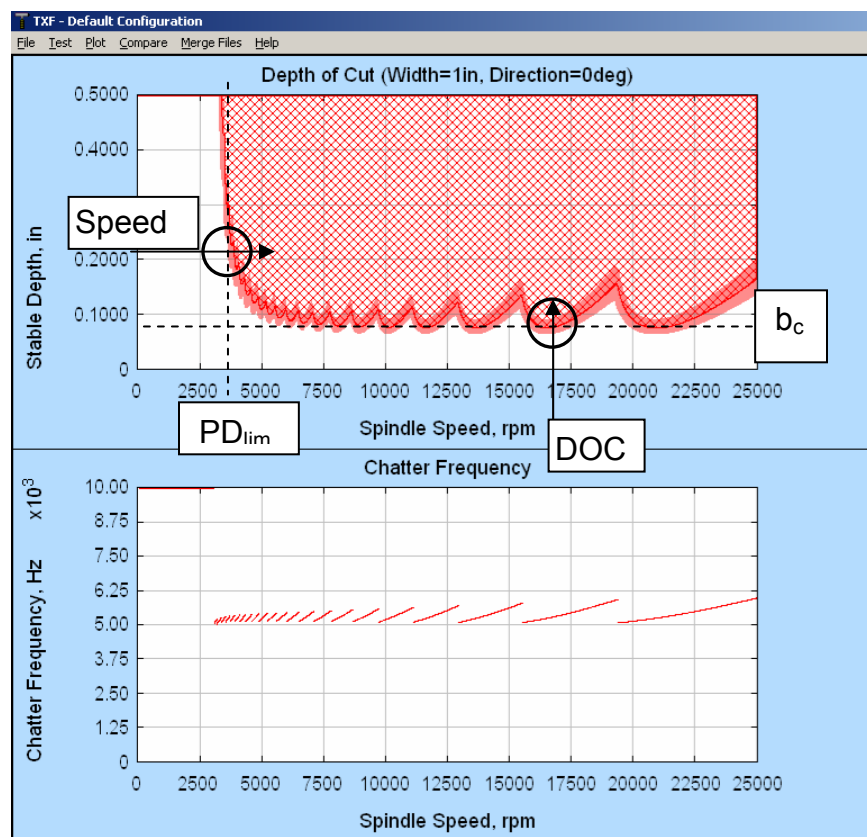

Figure 52: Stability Lobe Diagram
In the procedural description we will refer to the general stability graph in Figure 52.
- At some high speed select a “worst” case spindle speed (~16250 rpm in Figure 52). This spindle speed corresponds to the bottom of a lobe, (i.e. a depth of cut that produces a critical limit value (b_{cr}) from the stability chart).
So for the example in Figure 52 you would start at a depth of cut of 0.04” or 0.06” and then increment in steps of 0.01”.
- Evaluate at what spindle speed the depth of cut asymptotically rises to a maximum, labeled PD_{lim} (on the left side of the graph in Figure 52). Use $\frac{1}{4}$ to $\frac{1}{2}$ of this speed as the starting speed. For DOC use 2 times the limit value that was found in the DOC tests.
So for the example in Figure 52, PD_{lim} is at 3750 rpm so you would start at 1875 rpm. The depth of cut would be between 0.16” and 0.2”. You would increment your spindle speed by 10 rpm for each cut, yielding 3750, 3790, 3830, 3870, etc until you get chatter.